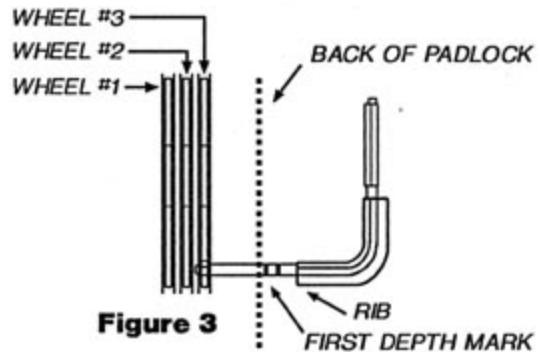

Figure 3
- Step 2 – When the change key opening in the wheel passes underneath the tip of the reset key, the key will move into the lock until the first depth mark is just barely outside the lock body (Figure 3).